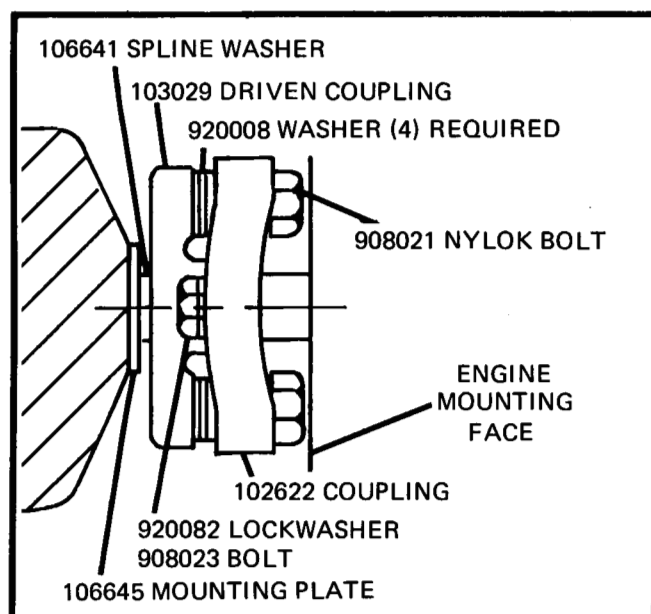

Fig. 1-3 D-200 Flex Coupling
- b. D-200 — install engine/pump flex coupling parts as shown in Fig. 1-3